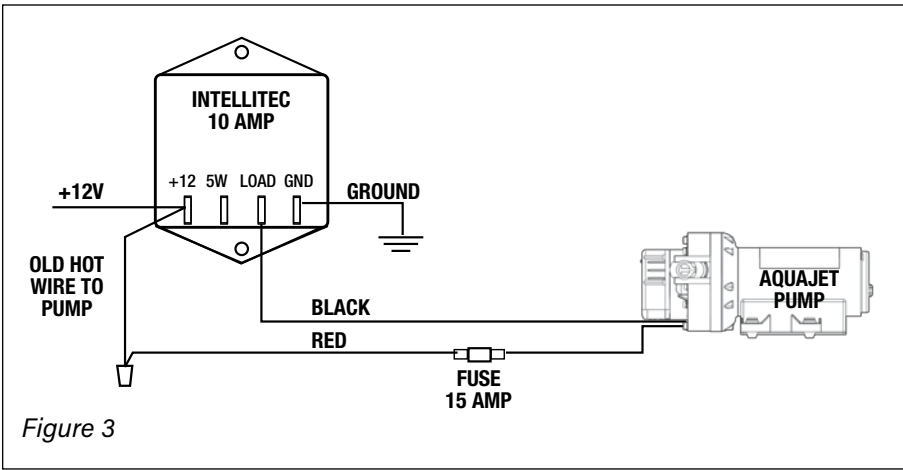

Figure 3
- b. Procure a 40 Amp rated relay (through either a local automotive store or directly through the Remco catalog, product number 20-267-6040-REM) to augment your existing controller. Please refer to Figures 3 & 4, page 5 and Figure 8, page 6.